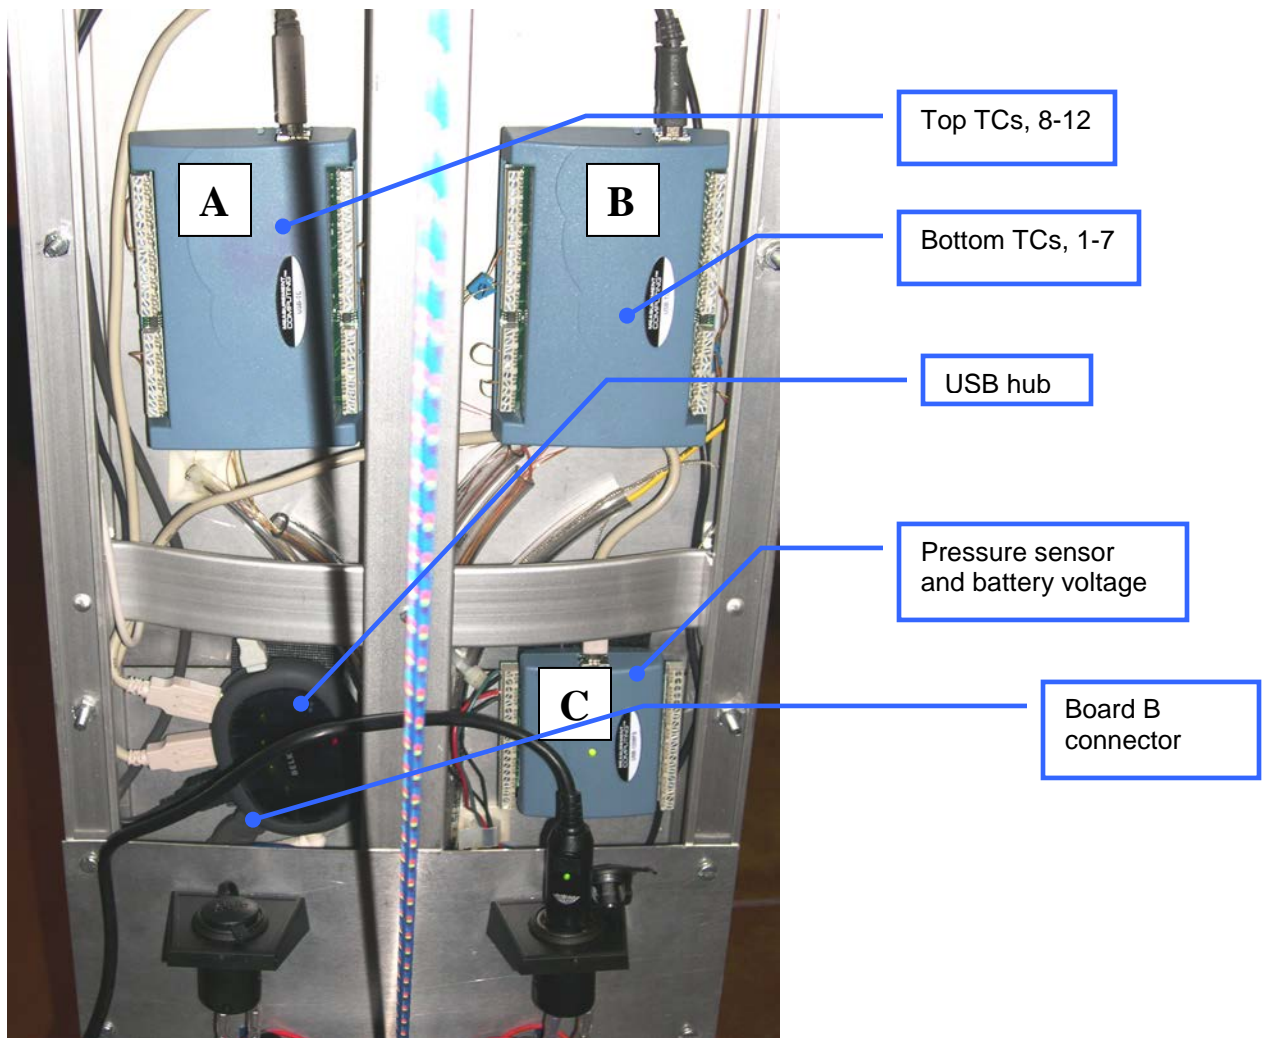

Figure 5: Thermocouple and pressure sensor interface boards
4. Static pressure sensor and supply air temperature thermocouple – A Setra Model 264 bidirectional pressure sensor with range of  $\pm 0.25$  iwc and accuracy of 0.25% full scale (FS); input voltage 9-30 VDC.
6. Thermocouples (TC) interface boards – (2) 8 channel, USB powered (5 VDC) – Measurement Computing, USB-TC for Type K. (See Figure 5)
7. Pressure and velocity interface – 8 channel, 12-bit resolution, USB powered – Measurement Computing, USB-1208FS. (Board C (#2, SN 1), Figure 5 )